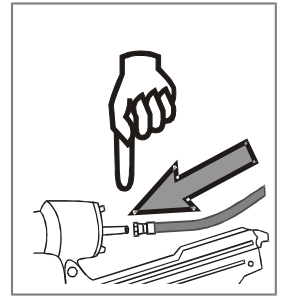

Fig 3
10. DISCONNECT TOOL FROM AIR SUPPLY BEFORE LOADING fasteners to prevent a fastener from being fired during connection. (See fig3.)